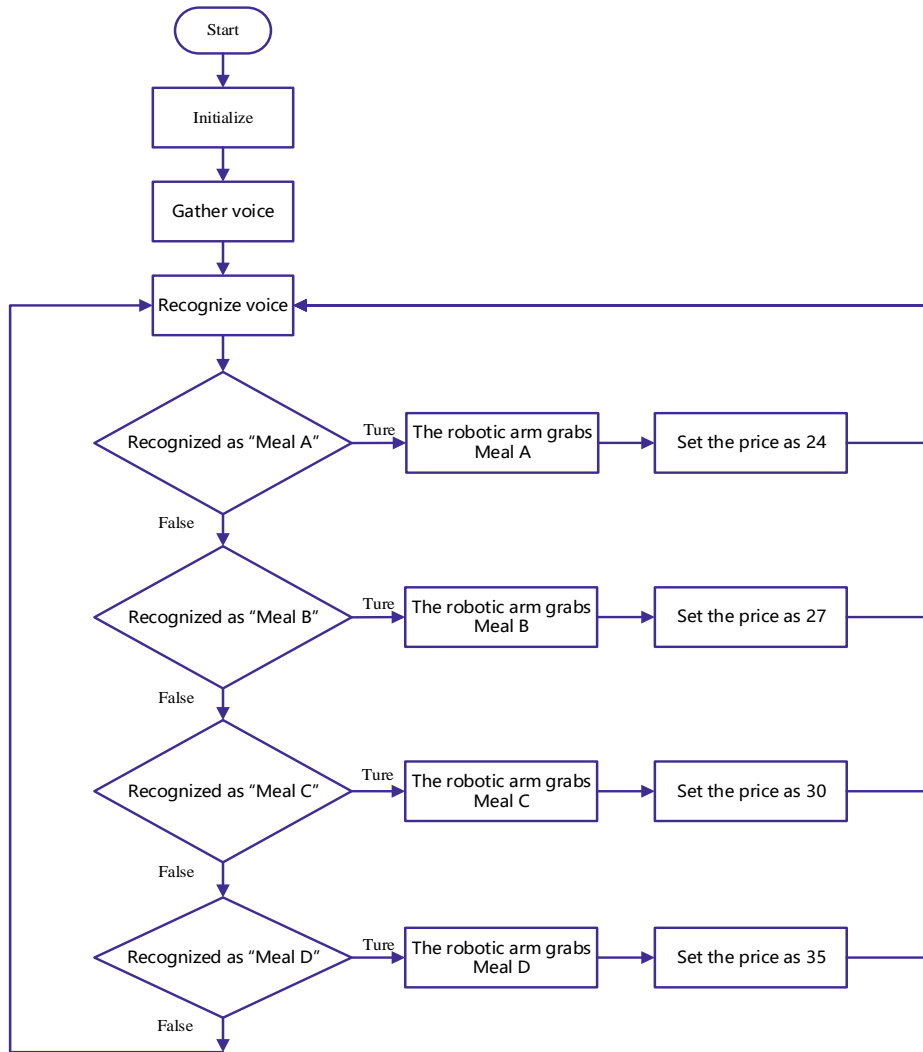

Figure 5.12 Flowchart
(2) Design Program
Step 1: Analyze the voice ordering process and draw a flowchart, as shown in Figure 5.12.